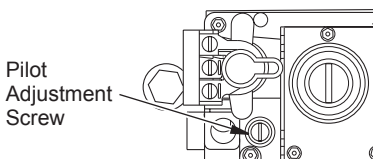

Figure 20 - Locating Pilot Adjustment Screw
- Turn the adjustment screw marked pilot clockwise to decrease or counterclockwise to increase the flame to proper size (see Figure 20, page 14). Do not remove the adjustment screw.